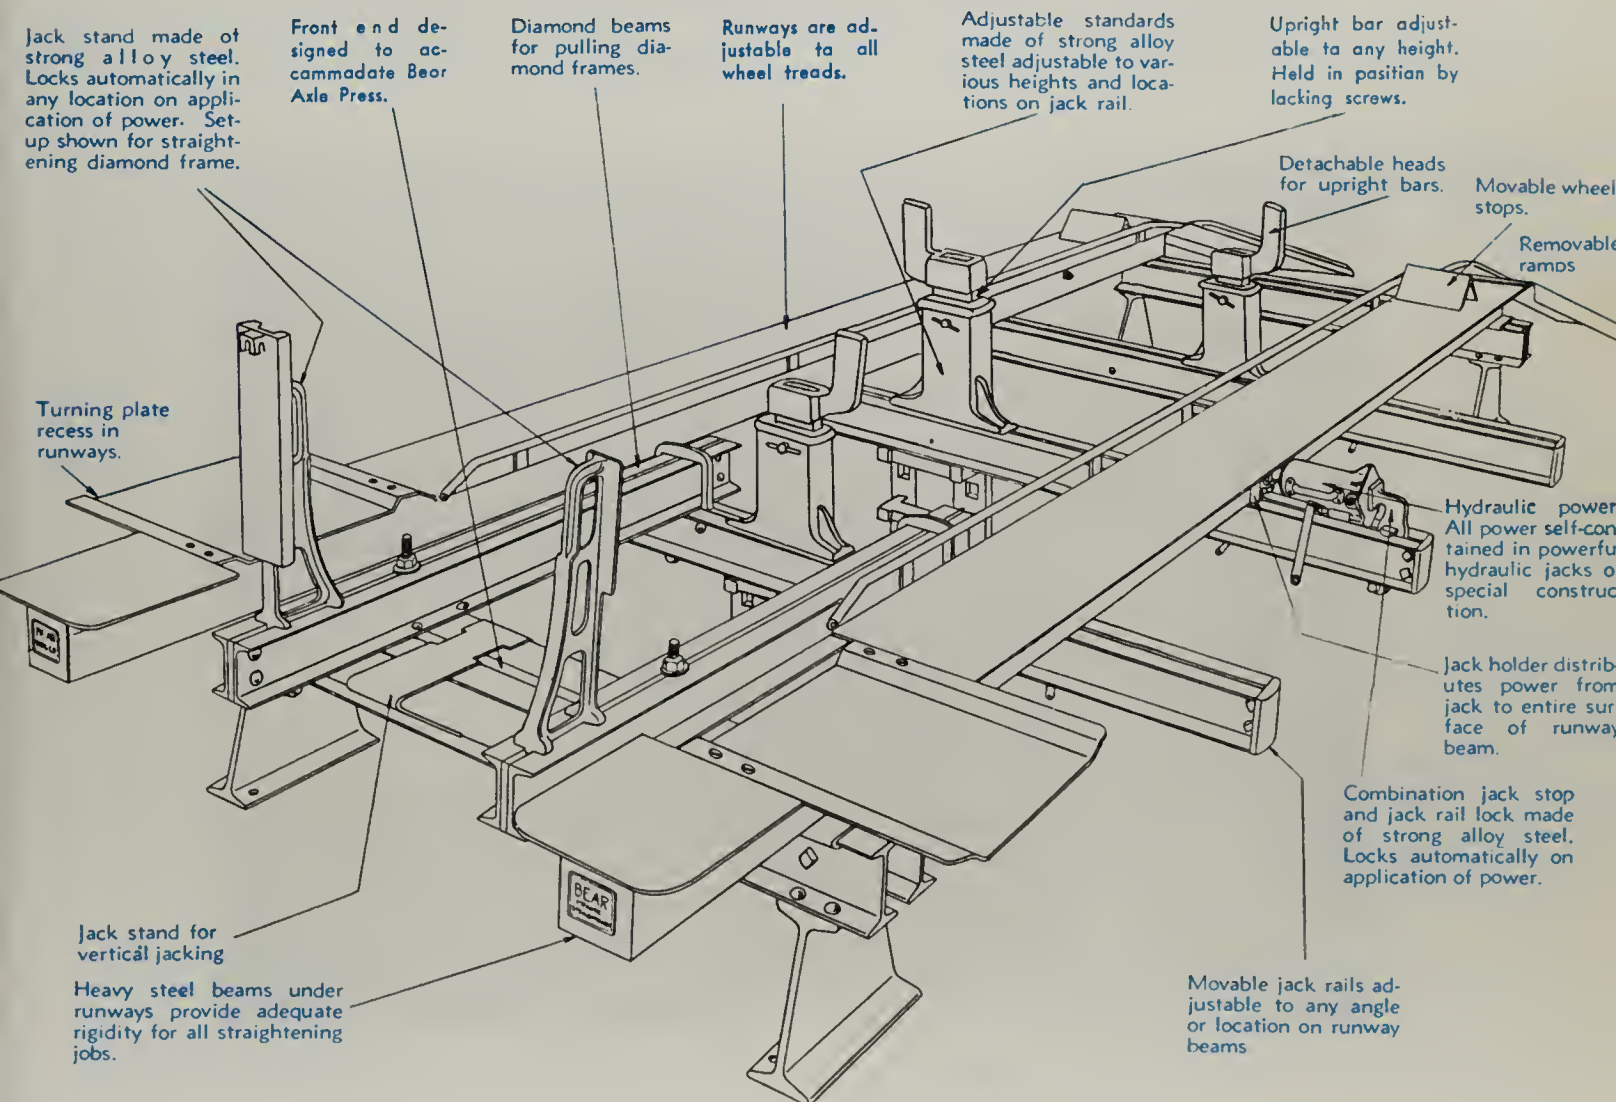

Fig. 8-9. Typical stationary rack type frame straightening equipment.
1. Stationary rack type. Vehicle is chained and clamped to a heavy-duty rack, Fig. 8-9. Hydraulic jacks are used to apply pressure where needed to straighten frame.
Rack type body and frame repair equipment is drive-on type, Fig. 8-9. Generally, the rack is about 18 in. above floor level. This equipment provides an accurate base from which measurements can be made to determine the extent of the damage.